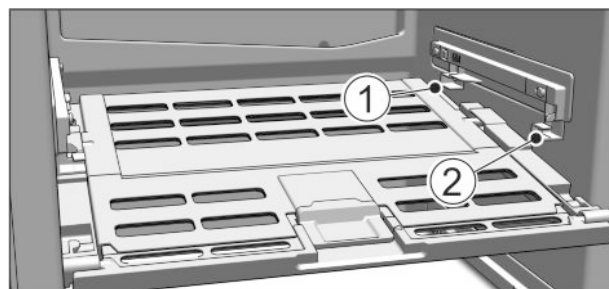

Fig. 48
- Replacing the Fruit & Vegetable safe cover: Guide the ridges on the cover into the rear brackets Fig. 48 (1) and click it into the front bracket Fig. 48 (2).